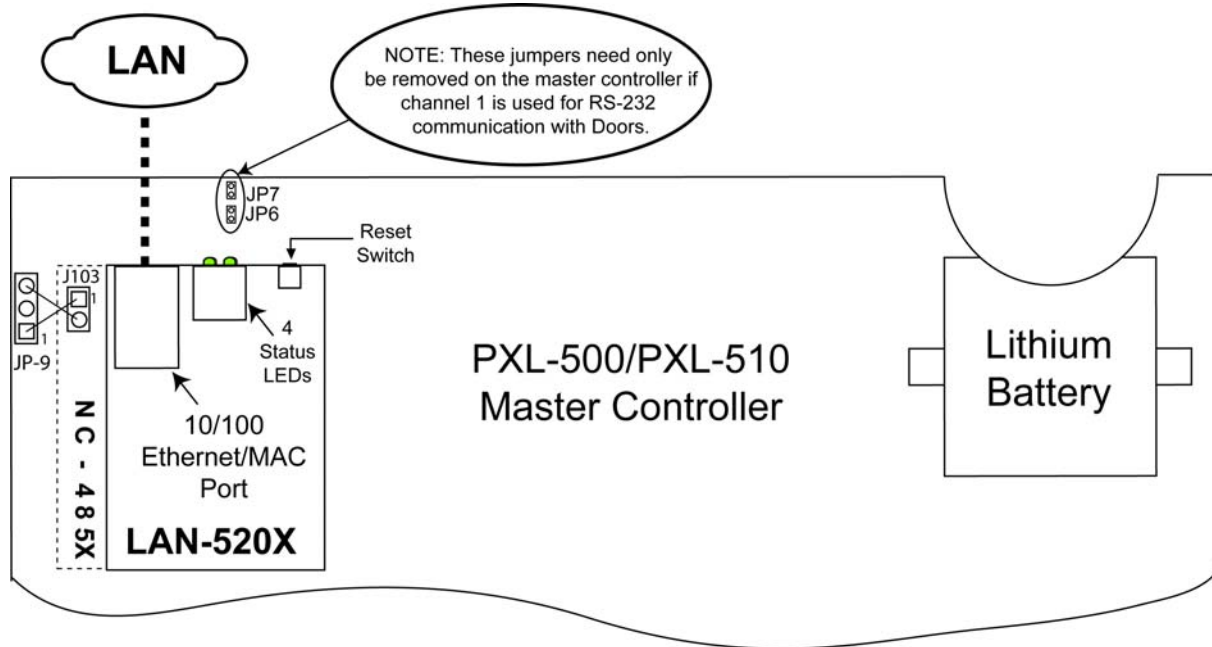

Figure 3: Installation of the LAN-520X with NC-485X Network Converter
3. Pin 1 of J103 on the NC-485x connects to Pin 1 of JP-9 on the PXL (see Figure 3).